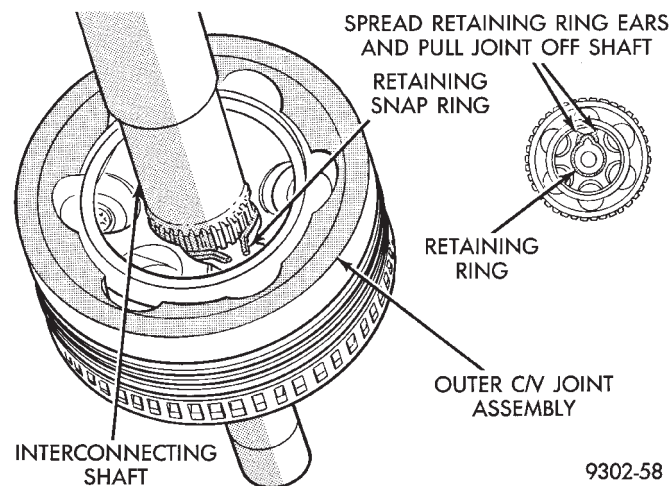

Fig. 34 Outer C/V Joint Removal From Interconnecting Shaft
(3) Wipe away grease to expose outer C/V joint to interconnecting shaft retaining ring. Spread ears apart on C/V joint assembly to interconnecting shaft retaining snap ring (Fig. 34). Slide outer C/V joint assembly off end of interconnecting shaft.
(4) Slide failed sealing boot off interconnecting shaft.
(5) Thoroughly clean and inspect outer C/V joint assembly and interconnecting joint for any signs of excessive wear. **If any parts show signs of excessive wear, the driveshaft assembly will require replacement. Component parts of the LH platform driveshaft assemblies are not serviceable.**